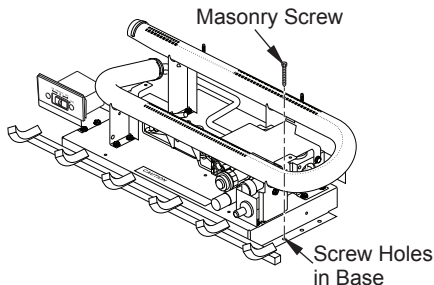

Figure 12 - Attaching Heater to Fireplace Floor
7. Mark screw locations through one hole on each side of the base (see Figure 12). If installing in a brick-bottom fireplace, mark screw locations in mortar joint of bricks.